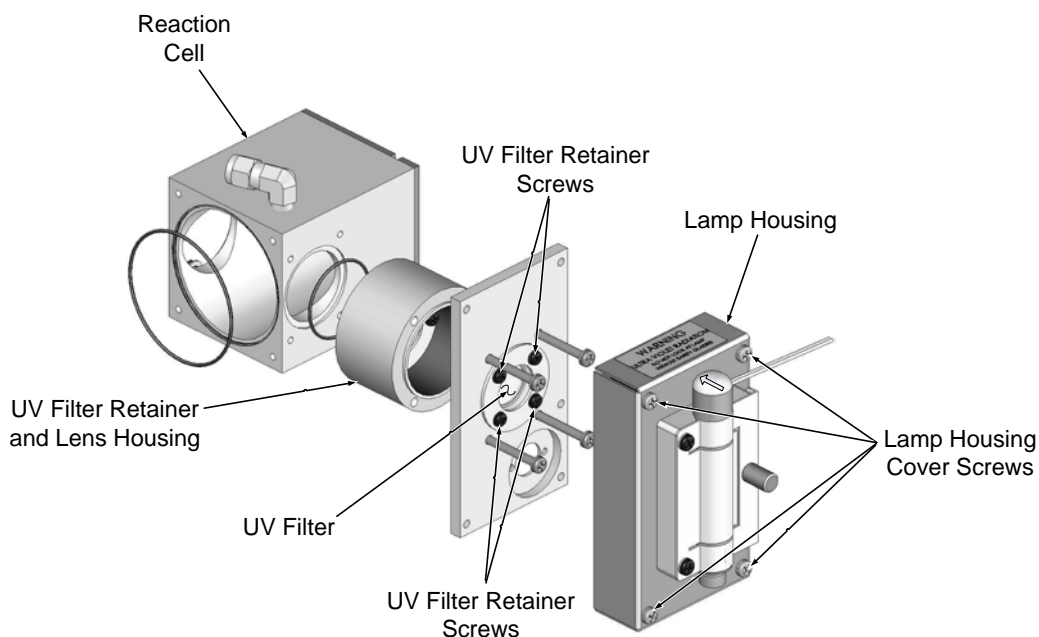

Figure 8-2: Disassembling the Sample Chamber/UV Source Assembly
3. Loosen, but do not remove the two UV lamp bracket screws, and the large brass thumbscrew located on the shutter housing (see Figure 8-2) so that the lamp can be moved.
Do not grasp the UV lamp by its cap when changing its position (see Figure 8-2). Always grasp the main body of the lamp. Inattention to this detail could twist and potentially disconnect the lamp's power supply wires.
3. Remove 4 screws from the lamp housing cover (see Figure 8-2) and remove the cover .